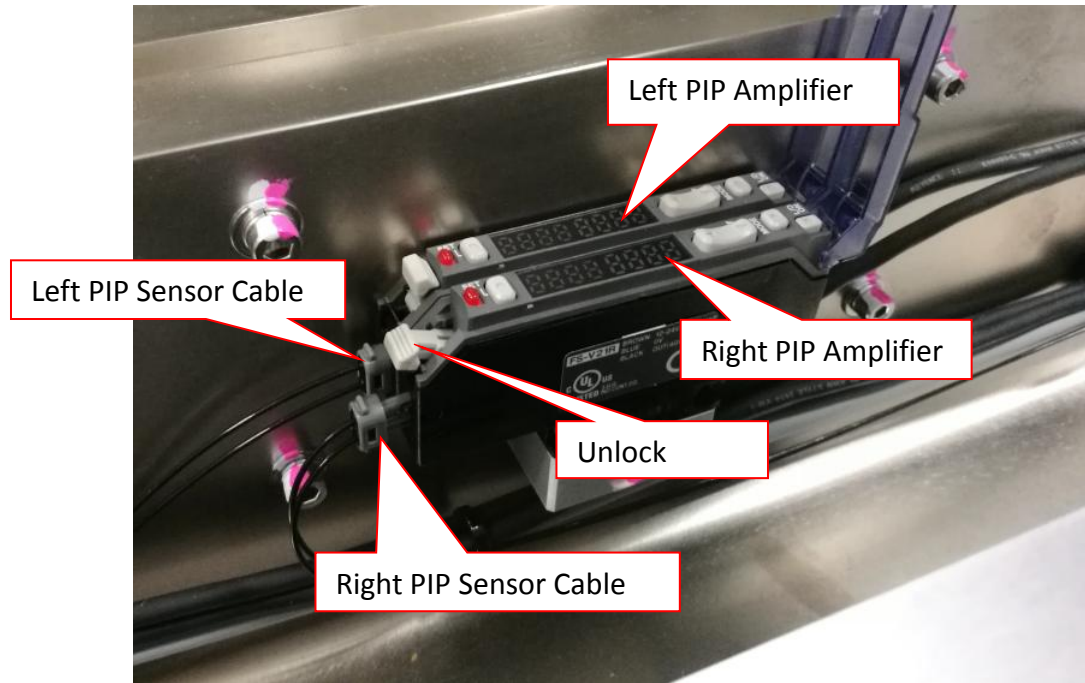

Figure 23 PIP Sensor Amplifier
3. Unlock & remove Defective PIP Sensor Cable Adapter from Right Amplifier as shown in Figure 23